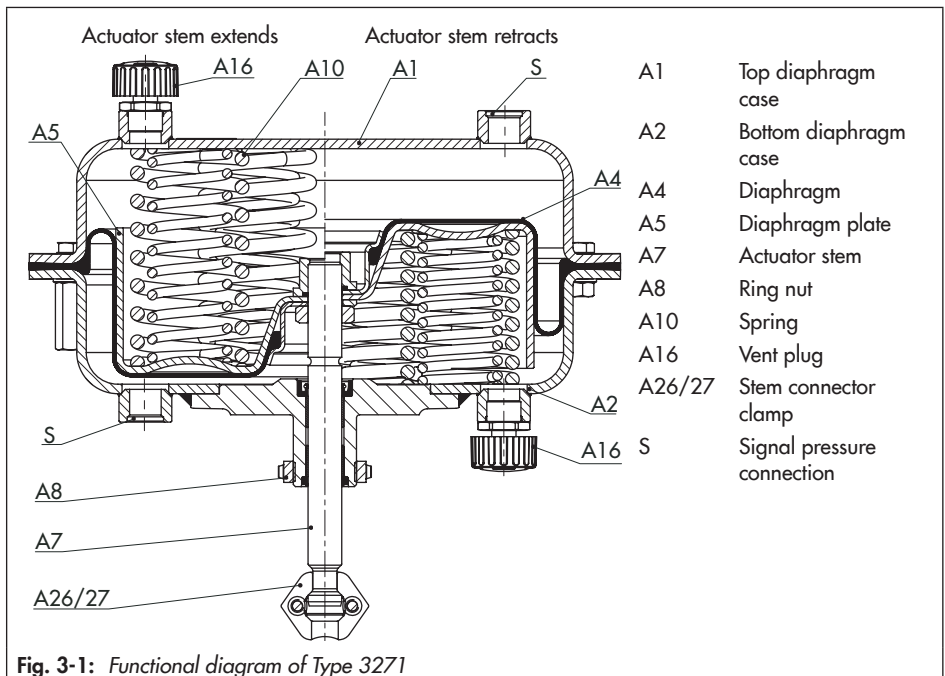

Fig. 3-1: Functional diagram of Type 3271
The actuator mainly consists of two diaphragm cases (A1, A2), the diaphragm (A4) with diaphragm plate (A5) and springs (A10) (see Fig. 3-1).
In the "actuator stem extends" version, the signal pressure is routed through the bottom signal pressure connection (S) to the bottom diaphragm chamber and moves the actuator stem (A7) upward opposing the spring force (see Fig. 3-1, left).
stem (A7) downward opposing the spring force (see Fig. 3-1, right).